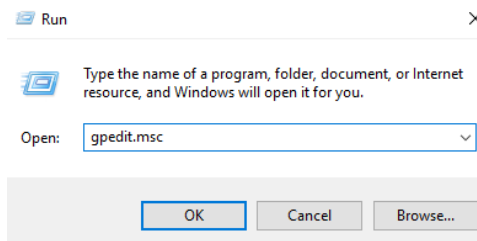

Figure 2-5. Open Windows group editor
1. Right-click on **Start**, click on **Run**, type gpedit.msc (press **Enter** or click **Ok**) to start the Windows group policy editor, see Figure 2-5.